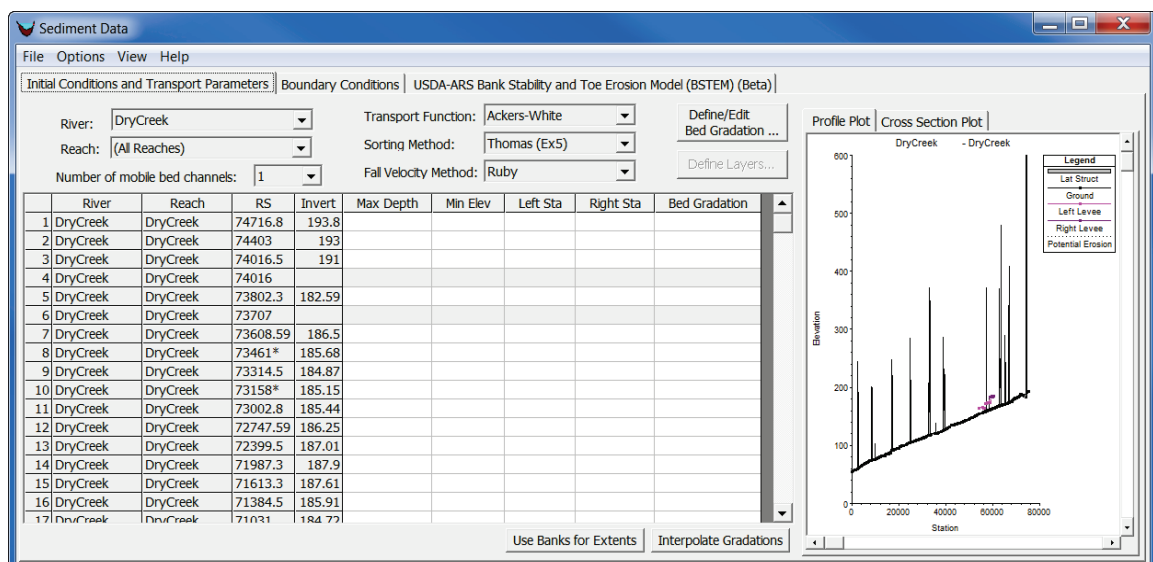

Figure L.41 HEC-RAS –Sediment Data Editor
- The HEC-RAS **Sediment Data Editor** will open (see Figure L.41). This editor allows you to edit parameters and boundary conditions that have been defined for the sediment data for a RAS model alternative. For further detail on this editor, reference the HEC-RAS User's Manual.
3. From the **File** menu, click **Exit**, the RAS **Sediment Data Editor** (Figure L.41) will close.